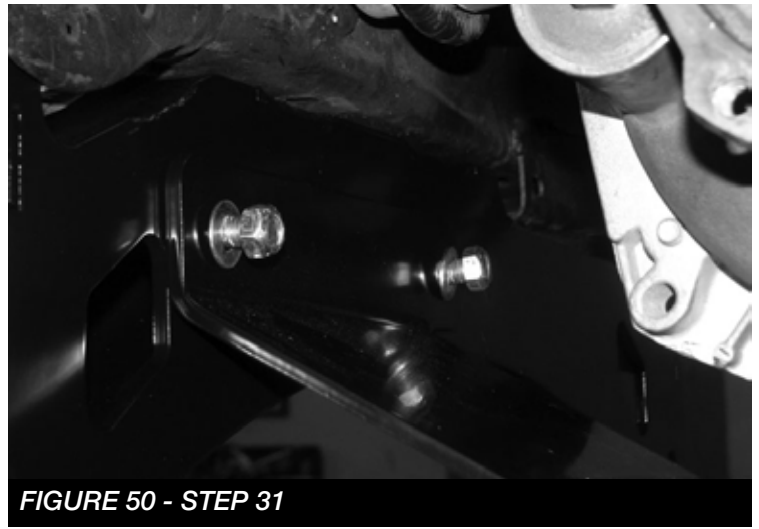

FIGURE 50 - STEP 31
31. Locate FT20657BK (front skid plate) using the provided hardware, install the skid plate by using the 7/16"-14 x1-1/2" bolts, washers and nuts to the front crossmember. **Torque to 50 ft-lbs.** Use the 1/2"-13 x 1-1/2" bolt, washer and nut on the rear crossmember. Torque to 75 ft-lbs. **SEE FIGURE 50**